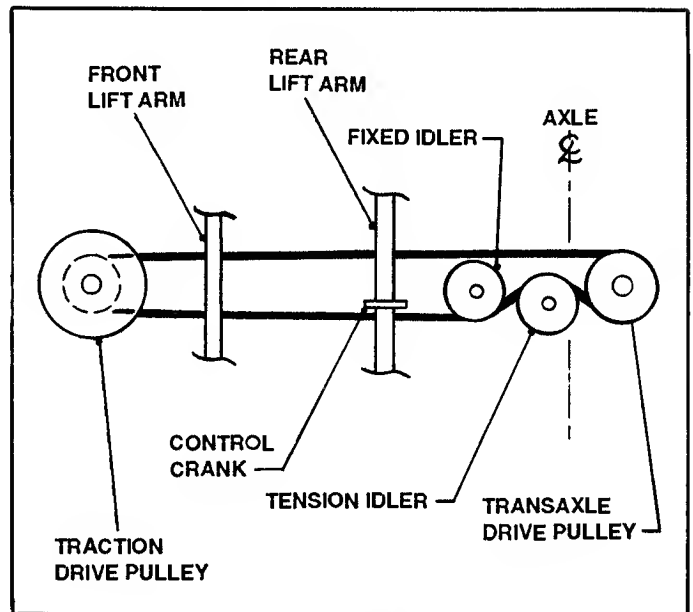

FIGURE 56
2. Place belt over CONTROL CRANK and between rear lift arm and tractor frame. See Figure 56. "DRIVE BELT ROUTING".